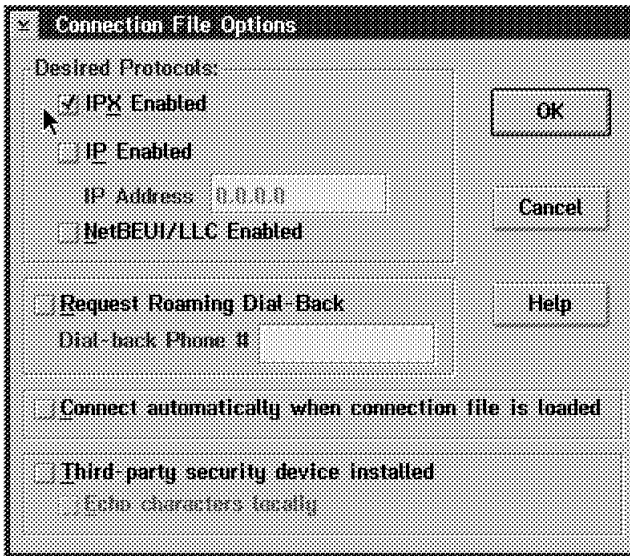

Figure 243. 8235 Client Options Window
3. Click on the **Options** button. A panel appears as shown in Figure 243.